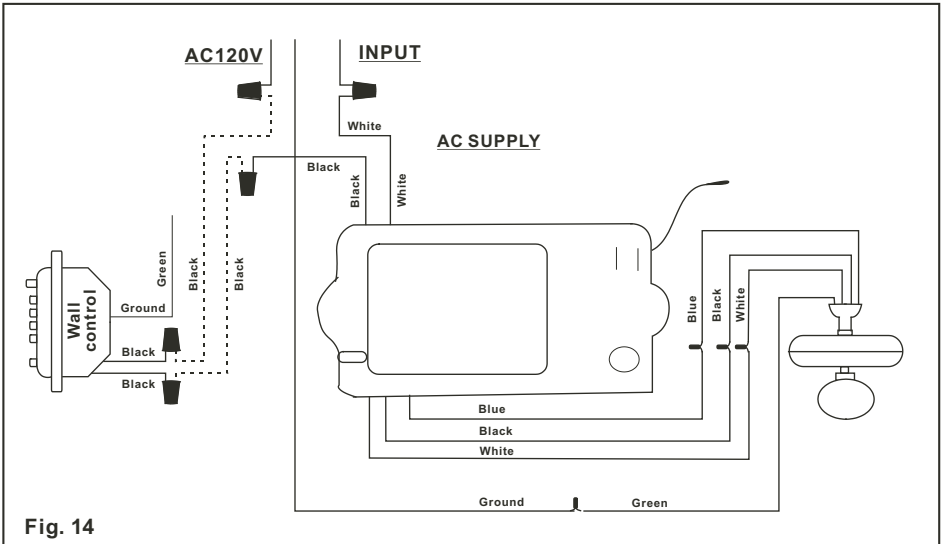

Fig. 14
**Step 2.** Make the electrical connections as shown in Fig.14. If your outlet box has a ground wire (Green or Bare Copper) connect the Transmitter's ground wire directly to one of the screws from the outlet box . Secure all wire connections with the plastic wire nuts provided.
**Note:** adjust the canopy screws as needed until the canopy is snug. (Fig. 14)